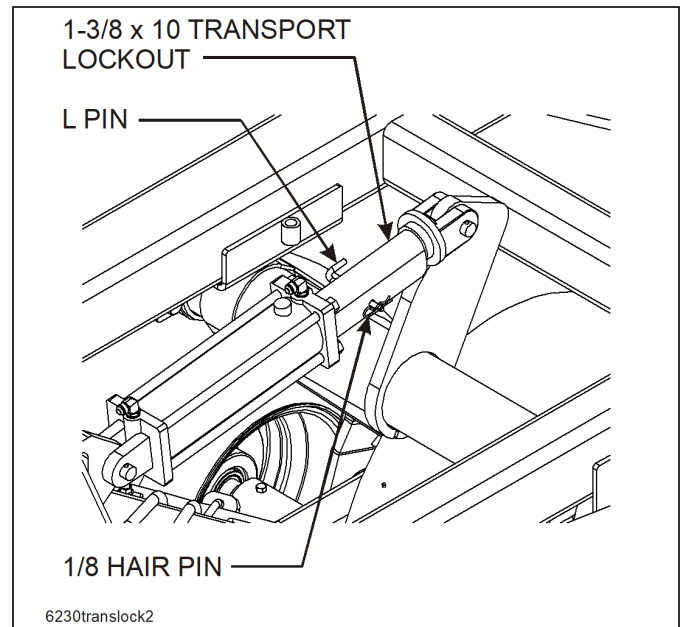
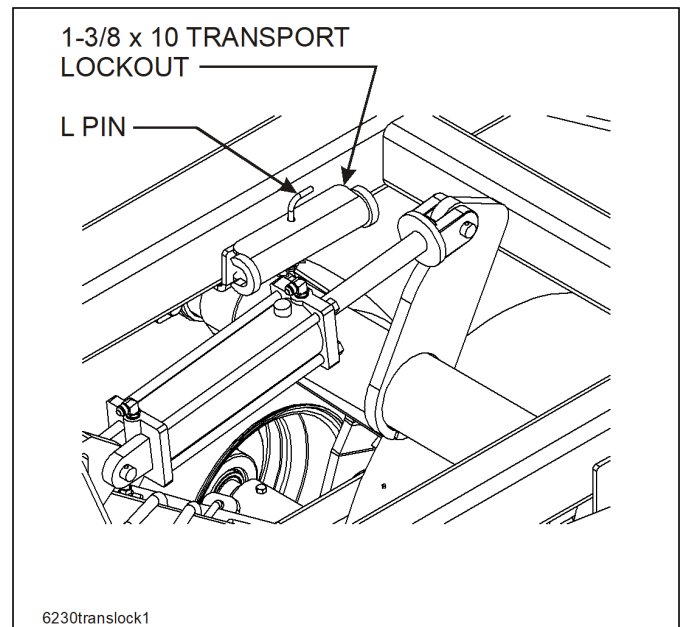

Figure 4-3: Installed Transport Locks
Figure 4-4: Stored Transport Locks
- The hydraulic system is not filled with oil and should be purged of air before transporting and field operations. Carefully hitch the VT Plus to the tractor and connect the hydraulic lift hoses. Check to make sure the tractor hydraulic reservoir is full of the manufacturer's recommended oil. Slowly raise the machine, and continue to hold the hydraulic lever until all lift cylinders are fully extended. Lower and raise the unit to verify that all cylinders are working simultaneously throughout the stroke. If the cylinders are not working evenly or together, fully extend the lift cylinders and continue to hold the lever to purge any remaining air. Do not loosen any hoses or fittings. Recheck tractor reservoir to make sure it is within operating limits. With all cylinders fully extended, install the 1-3/8 X 10 transport lockouts (**See Figure 4-3.**) Storage location for lockouts (**See Figure 4-4.**)
1. Raise the unit to take the weight off of the transport locks. Remove the transport locks from the lift cylinders (on the main frame only). Store the transport locks on the retainers above the main lift **(See Figure 4-4.)**